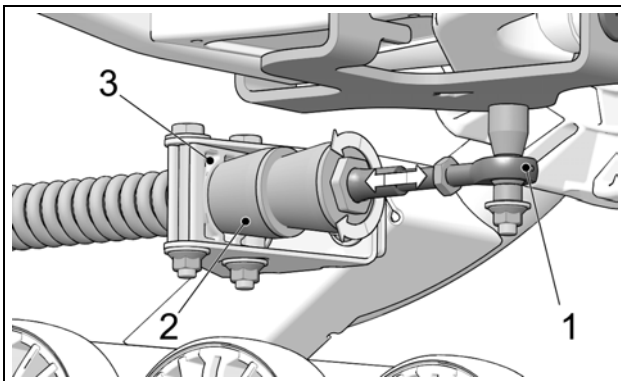

Figure 18
- Turn stabilizing arm nut to adjust length of rod end (1) and get rubber cone (2) to apply light pressure on anti-rotation retainer (3). See Figure 18.